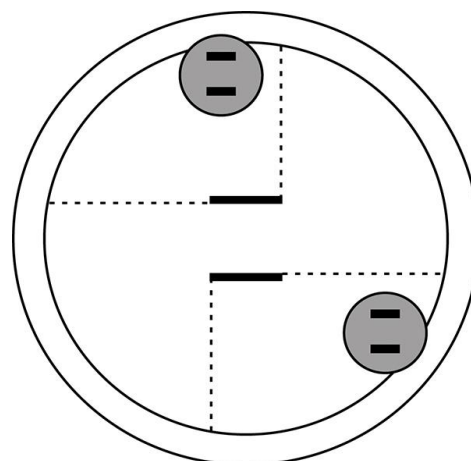

Figure.1.2 Sumo field with Shikiri-Sen starting lines
If the Sumo field is designed with Shikiri-Sen (starting lines) instead of starting cross, the same principles of robot orientation applies, in accordance with Figure 1.2. The wheels of robots should be parallel to Shikiri-Sen starting lines and any part of participant's robot shall not go over the sector limited by the closest Shikiri-Sen (starting
2. Before each round and according to the signal of the referee, the contestants place their robots simultaneously on the Dohyo. The robots must be placed in reciprocal sectors and at least some part of the robot must stay on the white line (see Figure 2 Starting cross and Figure 1.2 Sumo field with Shikiri-Sen starting lines). The wheels of iRobot Sumo robots should be oriented parallel to the virtual line extending starting cross line ended by arrows. For Sumo field with Shikiri-sen starting lines, the wheels should be oriented parallel to the Shikiri-sen starting lines. The robots are not allowed to move after they have been placed on the Dohyo.